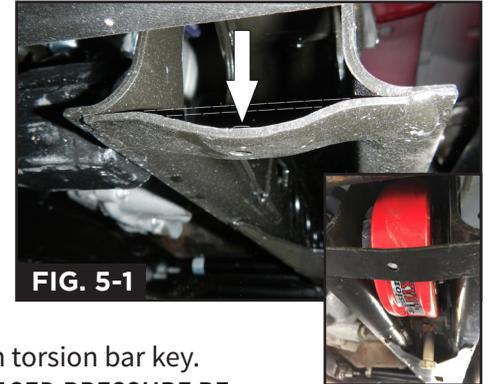

FIG. 5-1
**NOTICE:** A slight adjustment of torsion bar cross-member is required to clear MAXXCAM 9 Leveling kit (FIG 5-1)